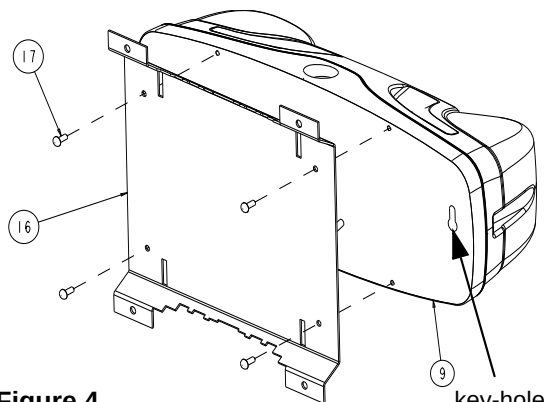

Figure 4
- b. Remove the k'outs needed to mount back plate. Considering the weight of the unit, it's recommended to use key hole for additional securing(see fig.4). For Nexus wired option, install the liquidtight fitting, provided with the unit. Use the k'out located on the bottom of the unit.
- a. Universal bracket (part 16 on figure 4) is an accessory and needs to be ordered separately. Remove knockouts on top of the backplate for conduit entry.
- c. Install the universal bracket as shown in figure 4. Don't install the gasket (9). Note: this type of installation is not NSF certified for food processing areas.